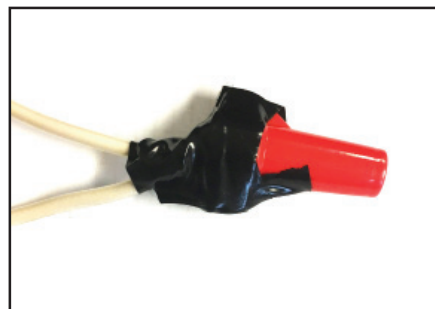

Figure 6
9. Wrap the wire nut and wires with a minimum of three full wraps of electrical tape. See Figure 6.